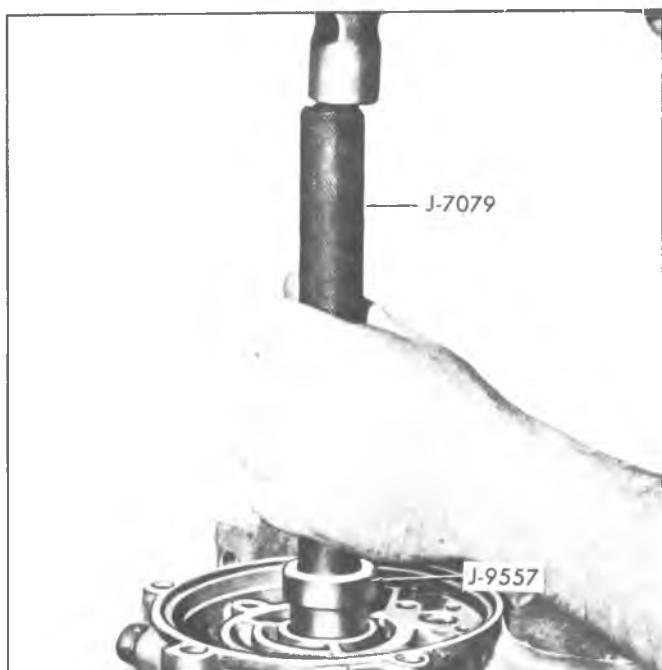

Fig. 28PG--Installing Case Rear Bushing
- To install new bushing, drive or press bushing into place from rear of case using Tool J-9557 and Handle J-7079 (fig. 28PG).